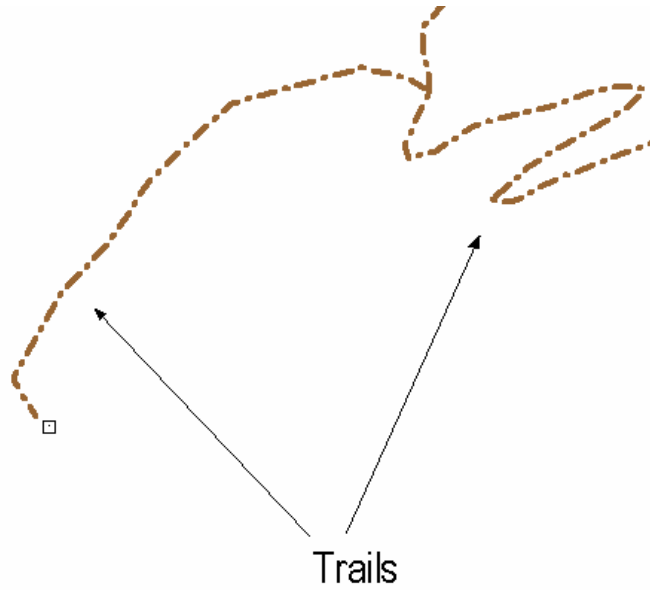

Figure 3.16: park map.TER
2. Dashed lines identify the trails in Park Map (see Figure 3.16). Hold down the <Shift> key, with the *Select* cursor  left click on each of the trails. Use zoom and screen scrolling to see all of the trails. If a wrong feature is accidentally selected, de-select by clicking again on the same feature with the shift key still depressed. To start again left click in a blank area to de-select all features.